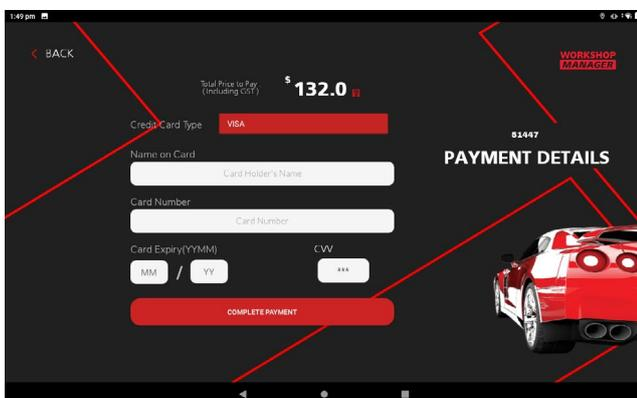
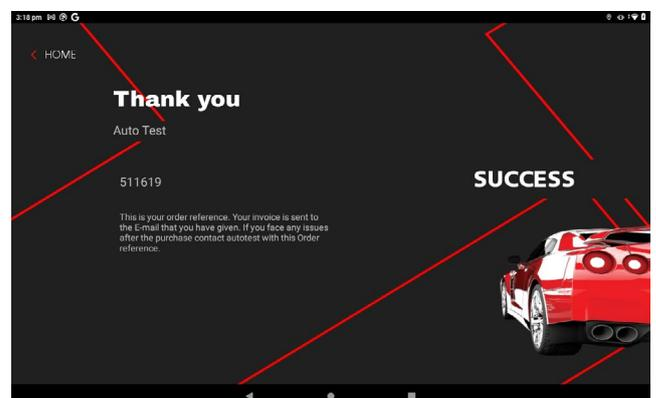

Figure 18
Figure 19
Step 4: Enter your credit card details and complete the payment. (Figure 18) Once the purchase is successfully processed and accepted, a prompt will appear to confirm that your Brake Pro License is now successfully activated.(Figure 19)